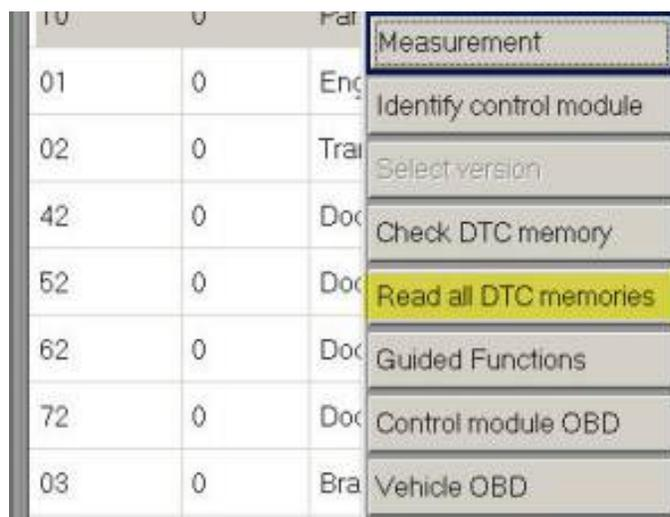

Figure 12. Rechecking the DTC memory.
12. Recheck the DTC memory (Figure 12). If all work has been performed properly, the fault will not return.